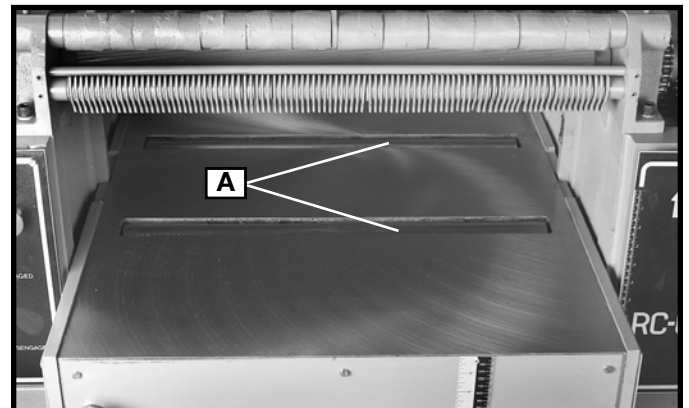

Fig. 13
Your planer is supplied with two table rollers (A) Fig. 13, which aid in feeding the stock by reducing friction and turn as the stock is fed through the planer. It is not possible to give exact dimensions on the proper height setting of the table rollers because each type of wood behaves differently. As a general rule, however, when planing rough stock the table rollers should be set HIGH and when planing smooth stock the table rollers should be set LOW.
To raise the table rollers (A) Fig. 13, turn adjustment knob (B) clockwise. To lower table rollers (A) turn adjustment knob (B) counterclockwise.